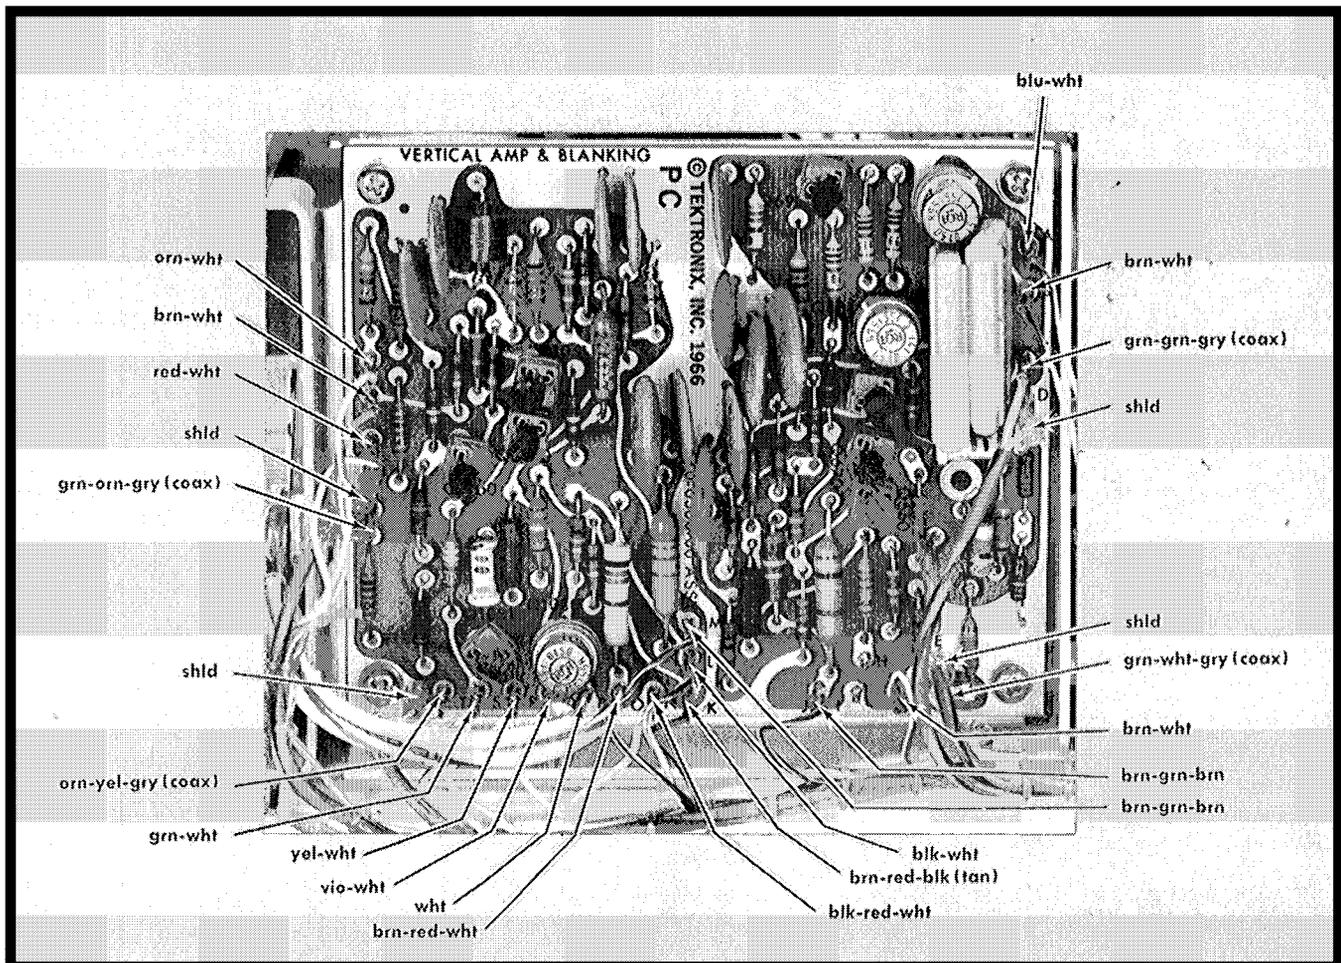

Fig. 4-3. Vertical Amplifier circuit board with wiring color code to pin connectors.
5. To replace the board, reverse the removal procedure. Correct wire and pin connections for each circuit board assembly are shown in Figs. 4-3 through 4-9.